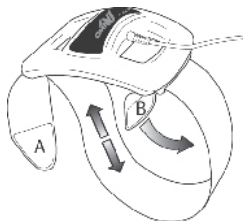

Figure 1
5. To shorten or lengthen the strap, move Velcro tab "B" along the strap. (Figure 1)
6. To tighten or loosen the strap, remove and reposition Velcro tab "A". (Figure 1)